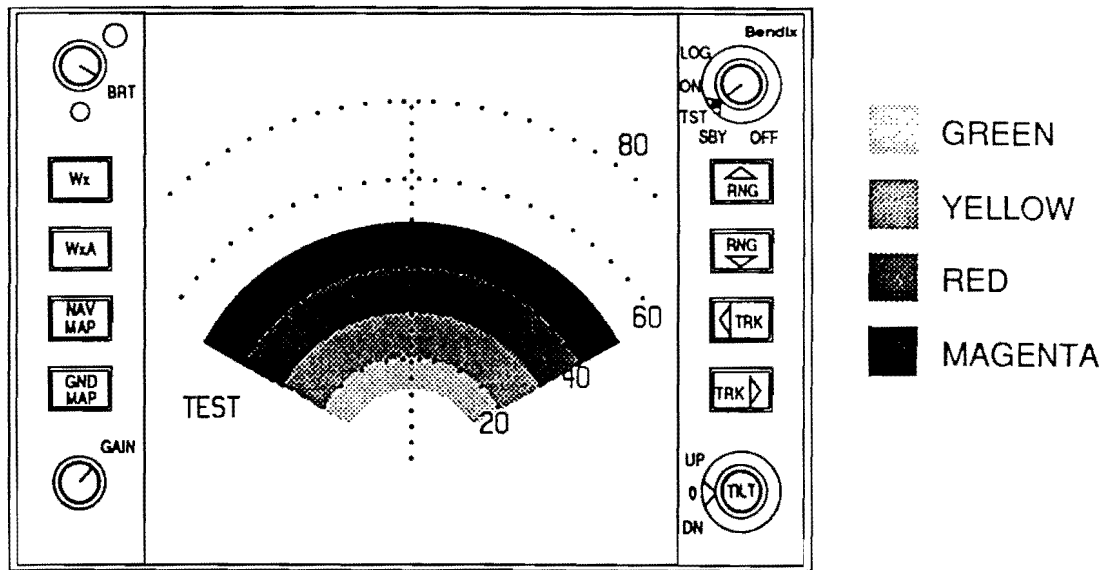

FIGURE 3-2 TYPICAL TEST PATTERN DISPLAY
- C. Adjust BRT controls for desired screen brightness. Observe test pattern illustrated in Figure 3-2.
- B. Check the indicator display. The test pattern appears 7 or 8 seconds after the indicator function switch was rotated from the OFF position to the TST position. The exact point of test pattern termination or range duration of each color is shown in Figure 3-2. The presence of four distinct colors, in the proper order, is important.